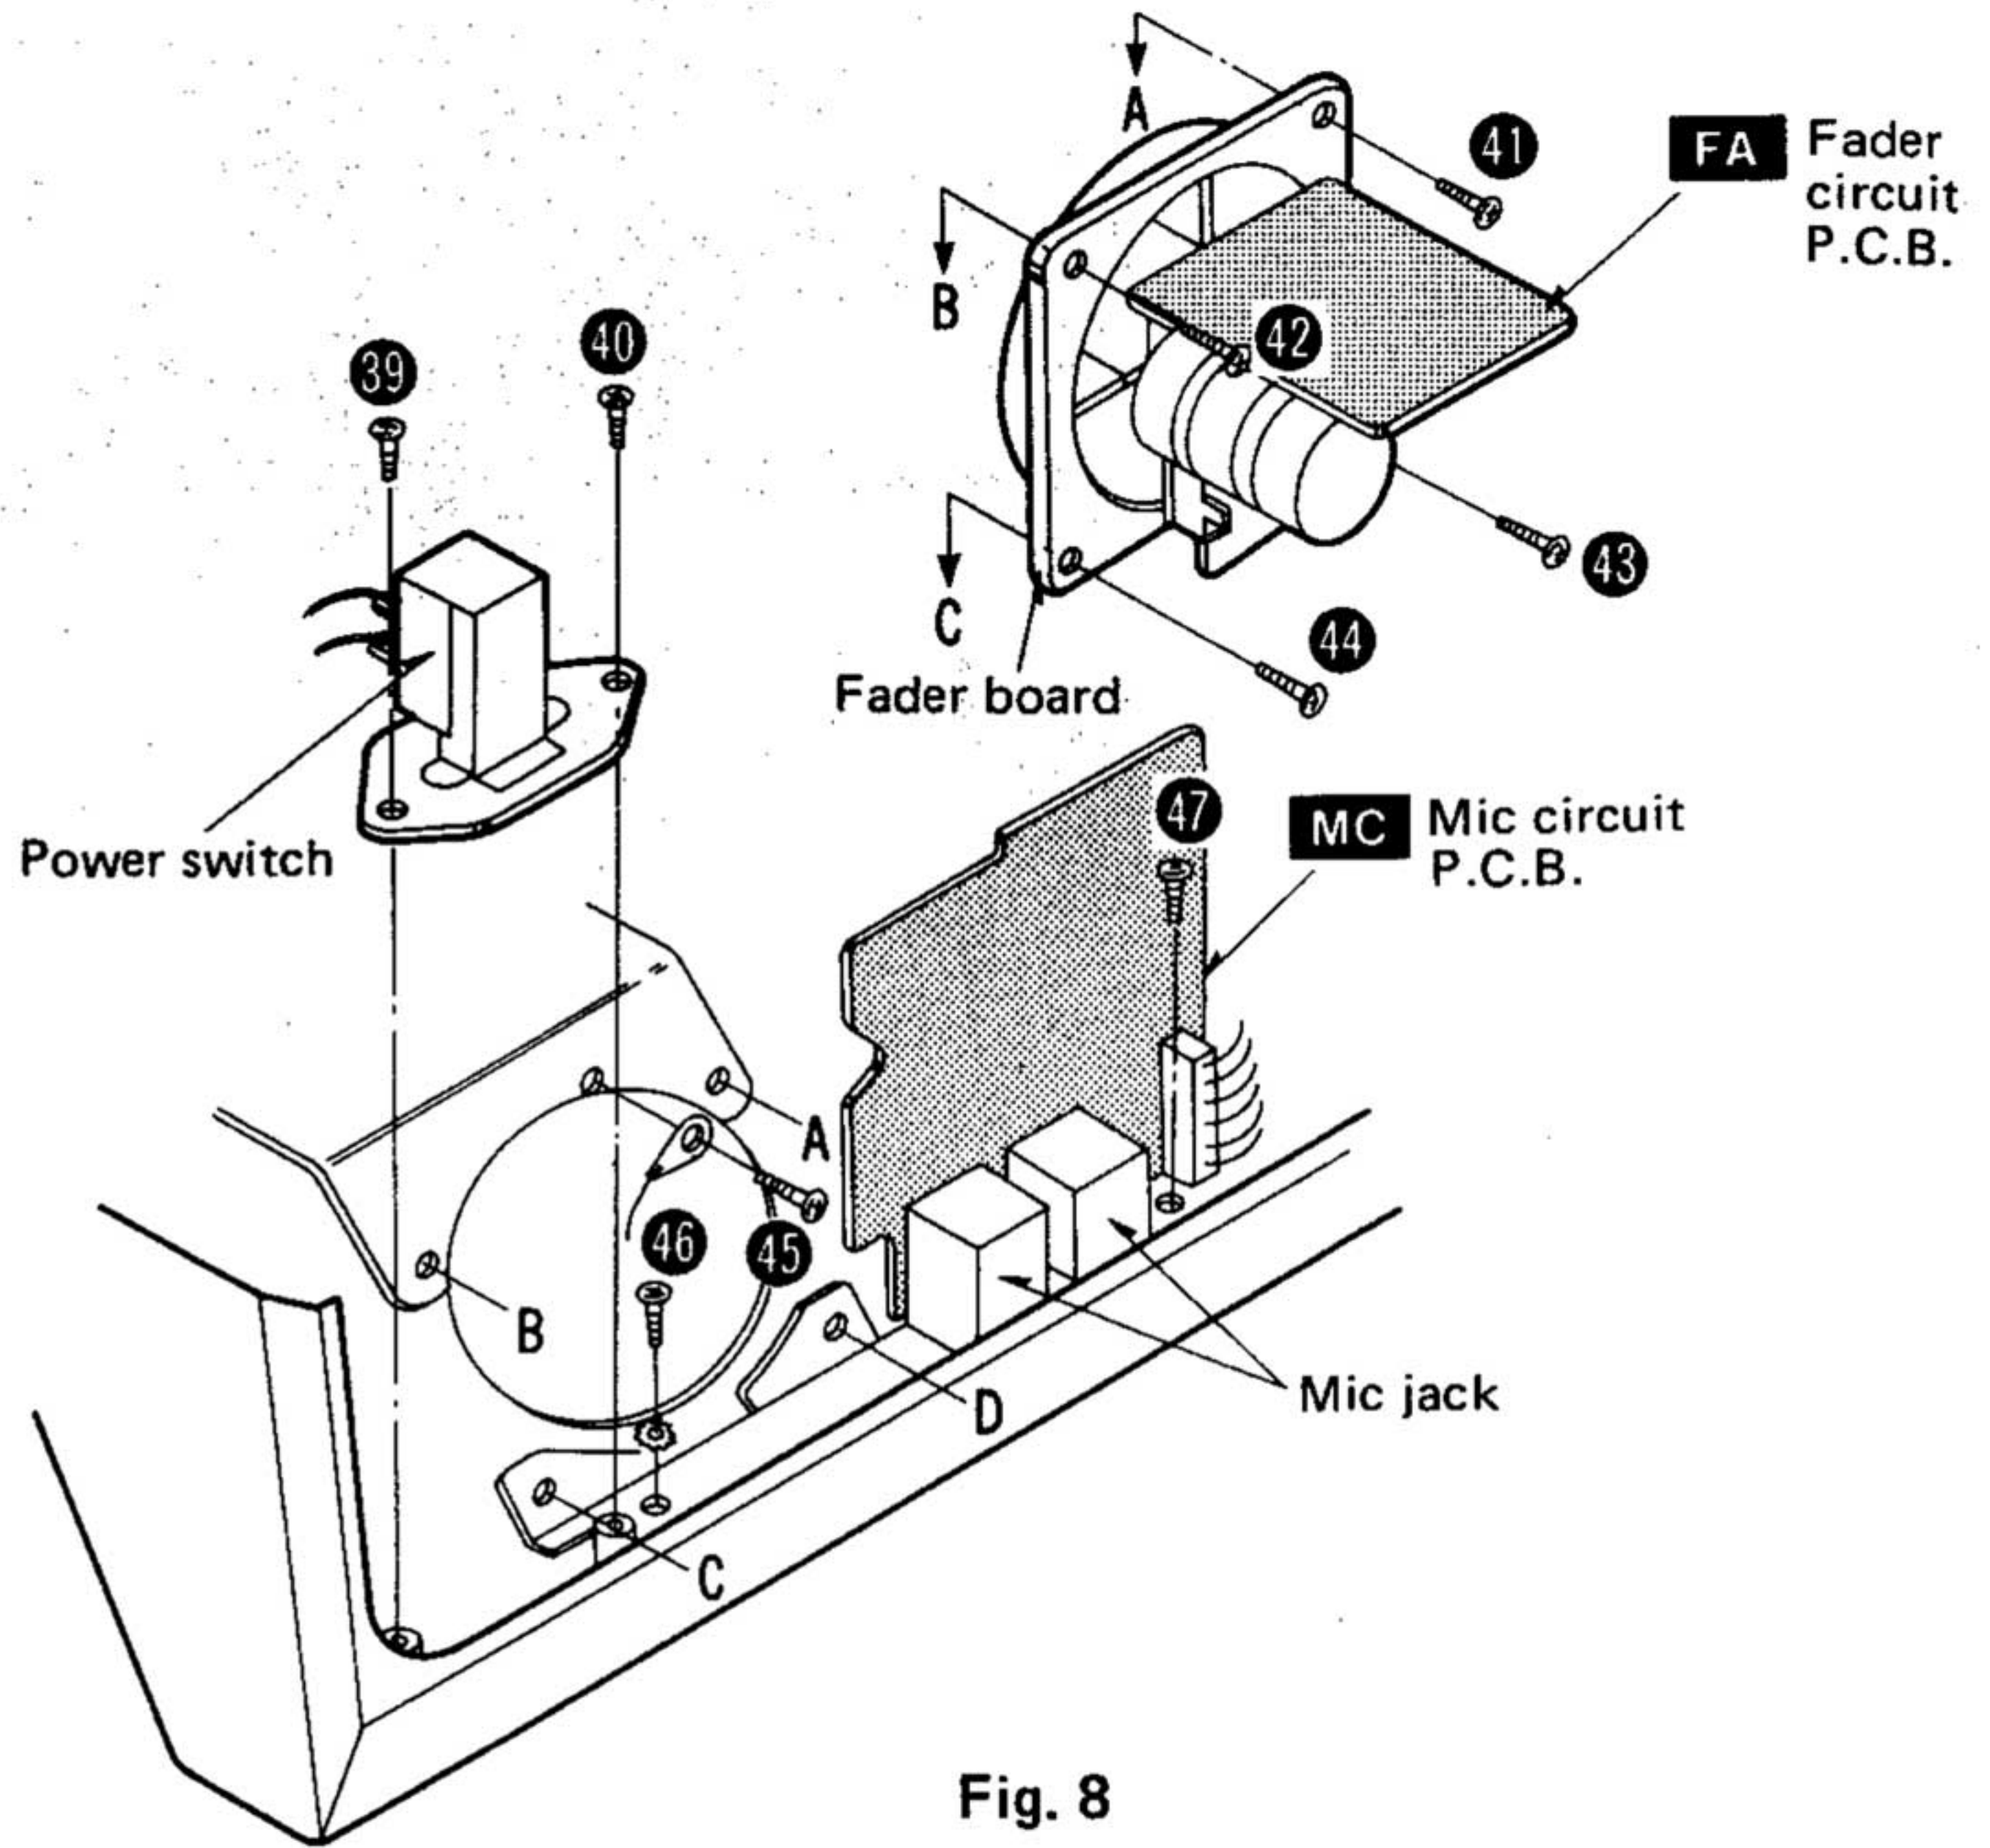

Fig. 8
2. Remove the 2 setscrews (Fig. 8 : 39 , 40 ) of the power switch.
3. Remove the 4 setscrews (Fig. 8 : 41 ~ 44 ) of the fader board and the setscrew (Fig. 8 : 45 ) of the earth plate.
4. Remove the 2 setscrews (Fig. 8 : 46 , 47 ) of the Mic board.